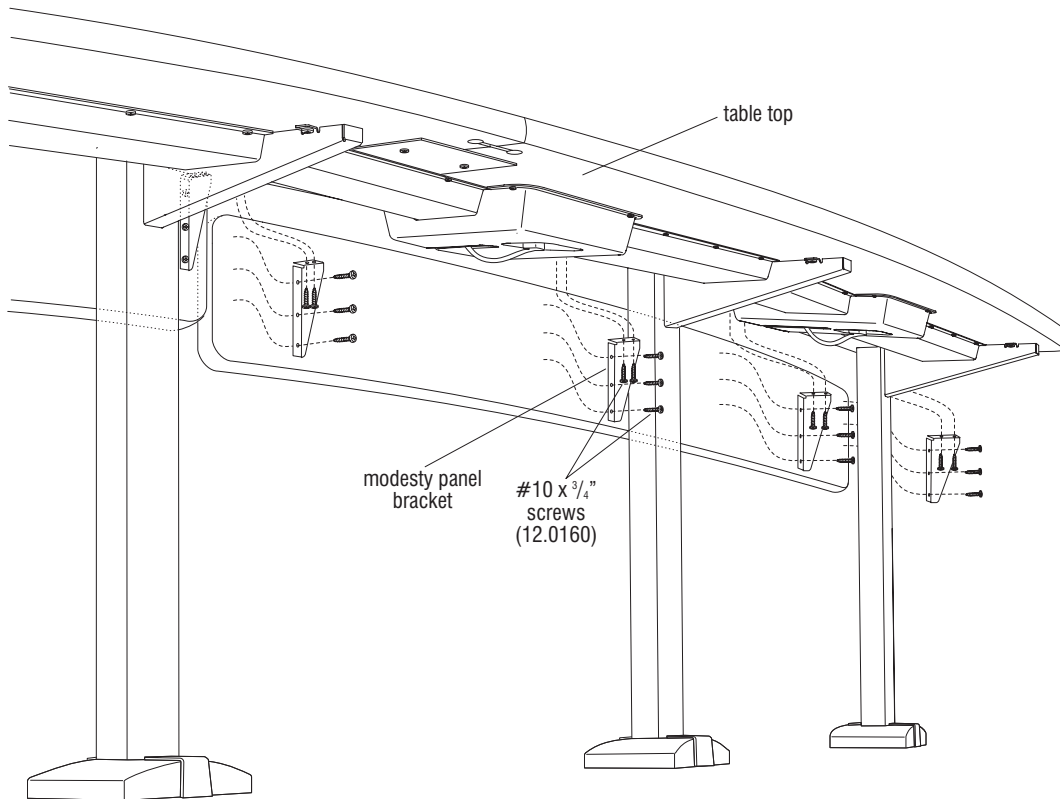

Figure 20
35. Per the space-planning layout and the identification numbers on the back sides of the modesty panels, lay the modesty panels out where they will be installed to the table tops. Modesty panel lengths are undersized on each end, thereby creating a  $\frac{1}{2}$ " gap at the modesty panel joints, and a  $\frac{3}{4}$ " to  $2\frac{1}{2}$ " space at the end-of-run. Refer to the chart on the space-planning layout for the number of brackets required per modesty panel, and equally space the brackets along the panel. The two end brackets should be 2" from the edge of the panel. Begin assembly by installing the bracket to the table top first (Figure 20).
**Note:** Care must be taken when positioning the brackets to ensure they do not interfere with the plastic shroud covers or support flanges. When the bracket is installed to the underside of the table top, the shorter flange of the bracket must be secured to the table top with two #10 x  $\frac{3}{4}$ " screws torqued to 50 in/lbs. Be sure that the longer edge (which will be secured to the modesty panel) is set back 1" from the front edge of the table top. After all brackets are secured, carefully lift the modesty panel into place and secure to modesty panel bracket with three #10 x  $\frac{3}{4}$ " screws torqued to 50 in/lbs (Figure 20).